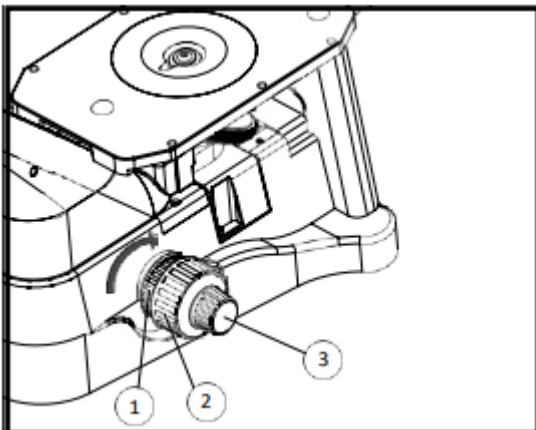

Fig. 16
Focus Adjustment (Fig 16)
1. Rotate the tension adjustment ring (1) according to the arrow direction in figure 16 to tighten the focus tension; rotate the tension adjustment ring in the opposite direction to loosen the tension.